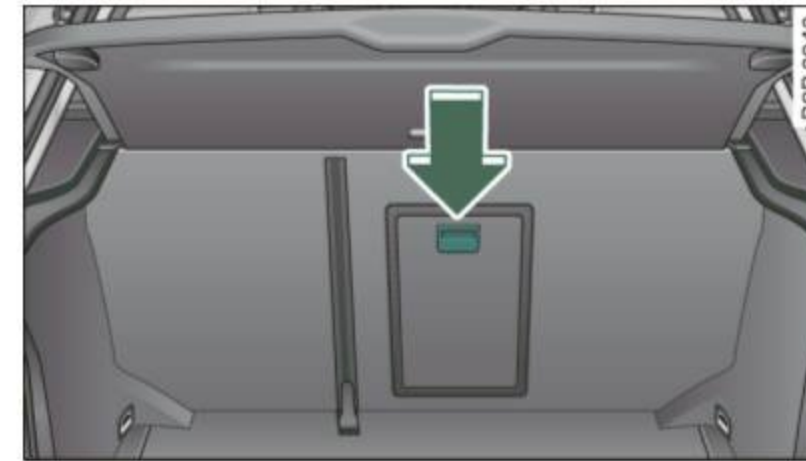

Fig. 110 Section of the rear seat from the rear: ski sack hatch cover
- Slide the release button for the pass-through down (with the center arm rest) ⇒ *page 111, fig. 110* -Arrow- and tilt the pass-through forward.